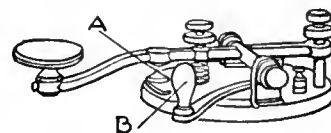

FIG. 440
7. The device in Figure 440 is called a — and is used to —.